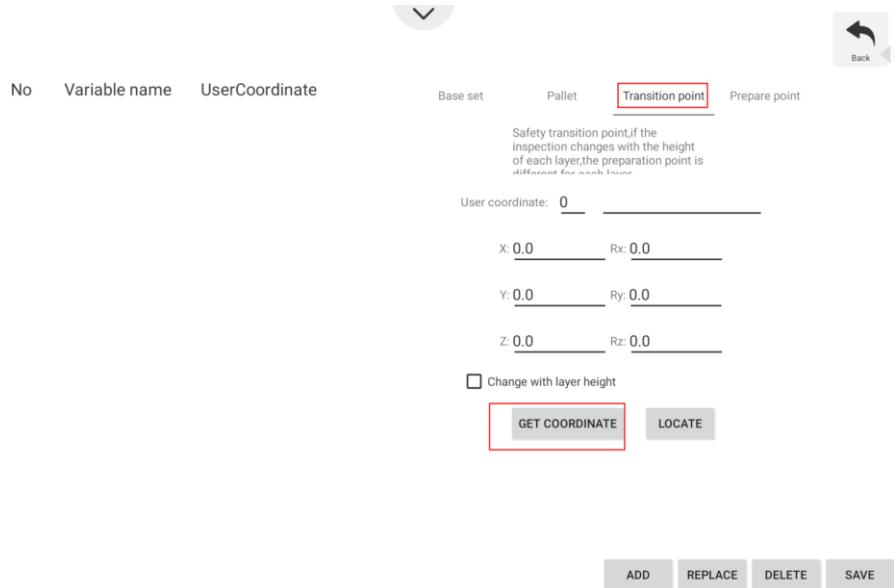

Figure 1.31 Teach the transition point
**Step 4** Jog the robot to the transition point and click **GET COORDINATE** on the **Transition Point** tab, as shown in Figure 1.31.